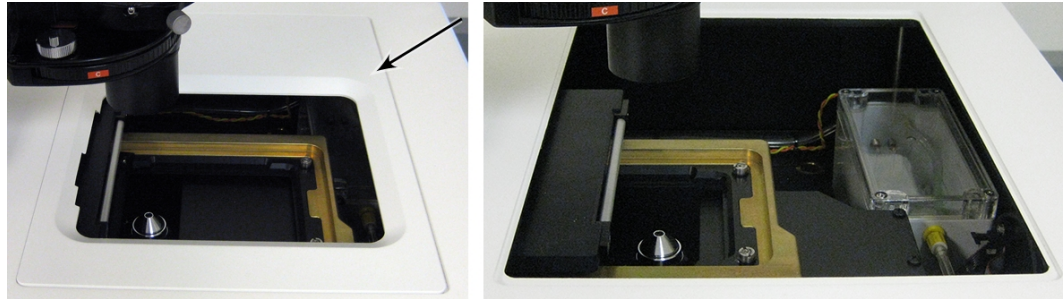

Figure 7-7: Top Access Panel Around the Top Door On and Off
13. Replace the top access panel surrounding the top door and close the upper hinged side door. See Figure 7-7.